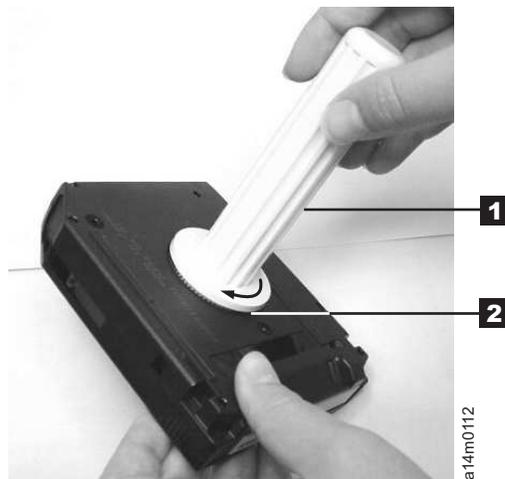

Figure 67. Rewinding the tape into the cartridge
5. To rewind the tape, insert the cartridge manual rewind tool (see **1** in Figure 67) into the cartridge's hub **2** and turn it clockwise until the tape becomes taut.